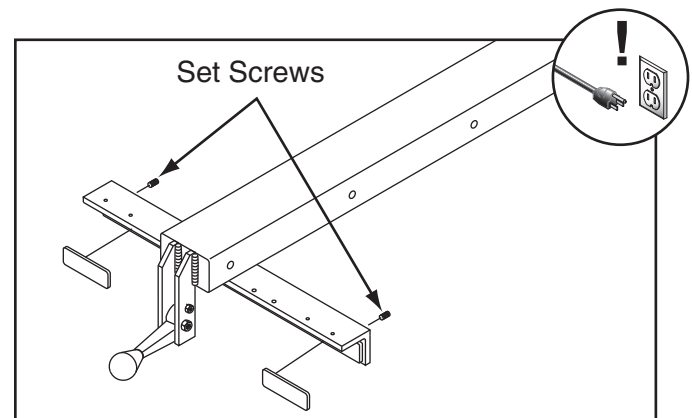

Figure 119. Location of set screws used to adjust fence parallelism and clamping pressure.
- Remove fence and equally adjust set screws shown in **Figure 119** as necessary, then re-install fence, lock it in place, and check clamping pressure. Re-adjust as necessary until fence will not move as pressure is applied against it.
6. Use trial-and-error to adjust set screws (see **Figure 119** on **Page 72**) so fence is parallel with blade and clamping pressure is sufficient.